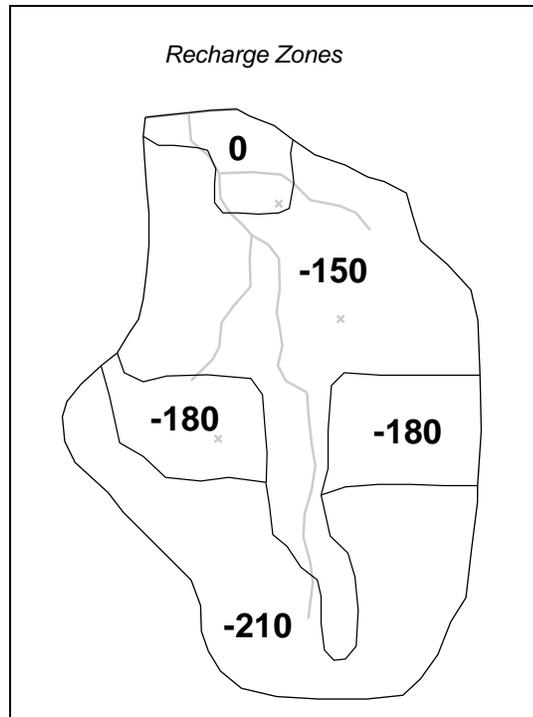

Figure 4 Recharge zones and parameter key values
Next, it is necessary to set up the recharge zones. The recharge polygons are shown in Figure 4. The five polygons will be used to define four parameter zones. The polygon at the top end of the model is relatively small; it is isolated from the majority of the observation wells, and it is down gradient from the wells. As a result, it is not a good candidate for parameter estimation. This tutorial will fix the recharge in this zone at zero. The key values will be associated with the other four polygons to define four parameter zones as shown.
2. Using the **Select Polygon** tool, double-click on the top center polygon as shown in Figure 4 to open the *Attribute Table* dialog.
4. Repeat steps 2–3 for the remaining four recharge polygons, entering the appropriate values from Figure 4.